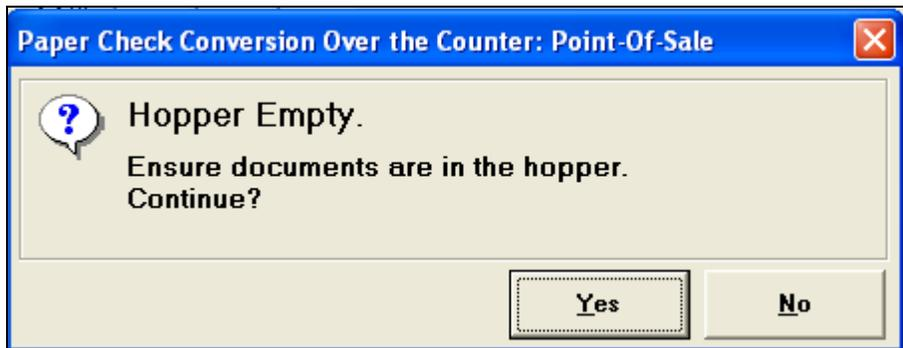

Figure 6.33.02
3. Once the hopper is empty, the following message appears on the screen (Figure 6.33.02):